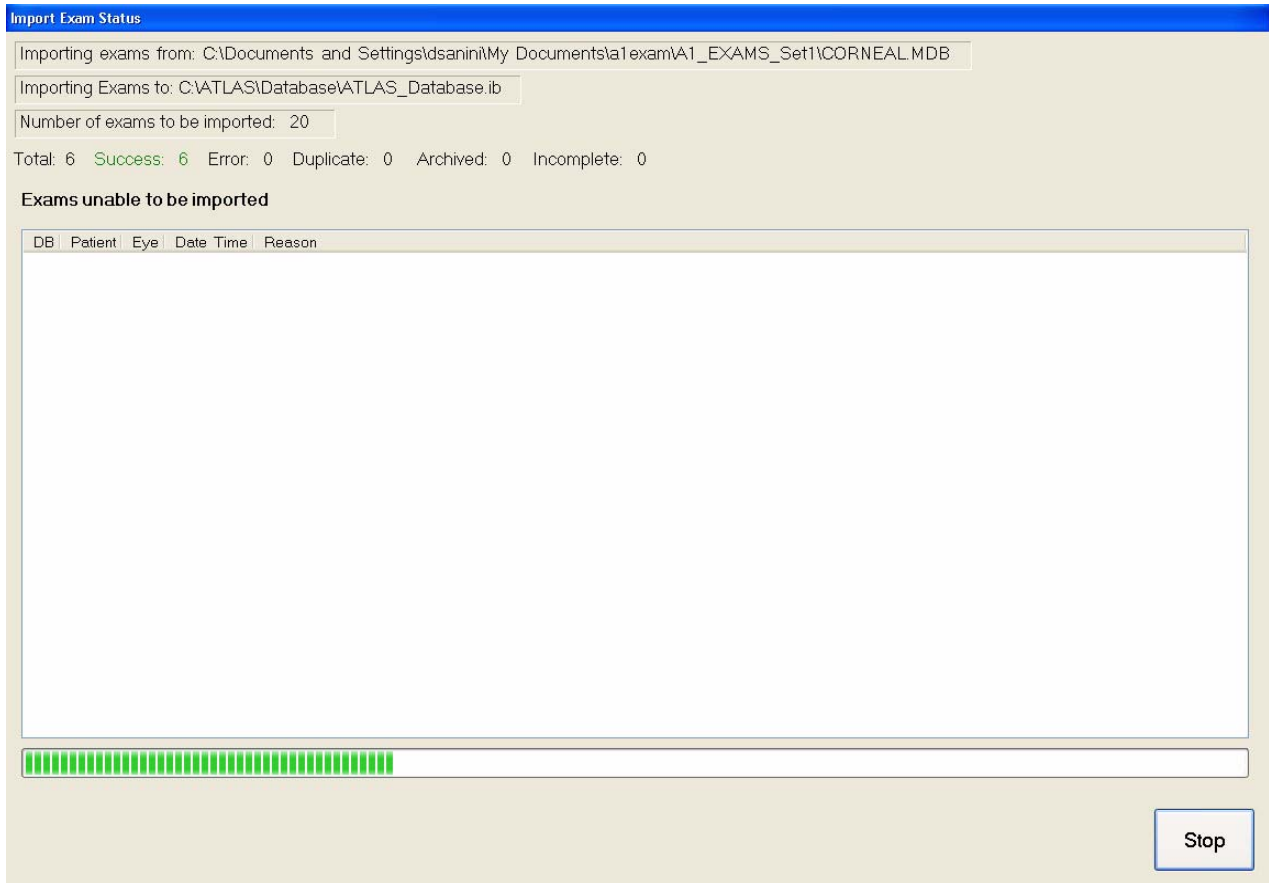

Figure 11-12 Import Exam Status Dialog
14. If you clicked the **Import Selected** button or the **Start Import** button, the exam import process begins and the **Import Exam Status** dialog will be displayed (Figure 11-12). The progress bar at the bottom of the screen indicates the importation progress. The dialog also shows the import and export database locations and number of exams selected for import.